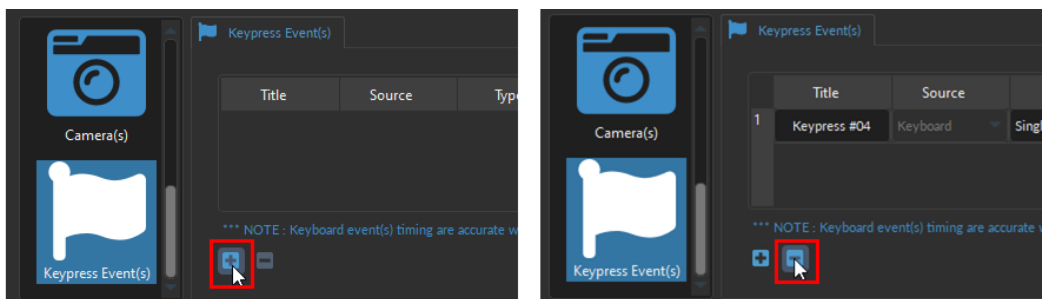

Figure 3.46: Adding and Removing Keypress Events
To add a new **KeyPress Event**, select the + sign at the bottom of the window (Fig. 3.46, left). To remove a Keypress, use - button (Fig. 3.46, right).
- **NOTE:** Selecting the + button (without clicking the *Add* button or the *Close* of the *Channel Configuration* window) will **automatically** add the Keypress Event channel at the **bottom** of the Acquisition View window, below any pre-existing channels (Fig.3.46).